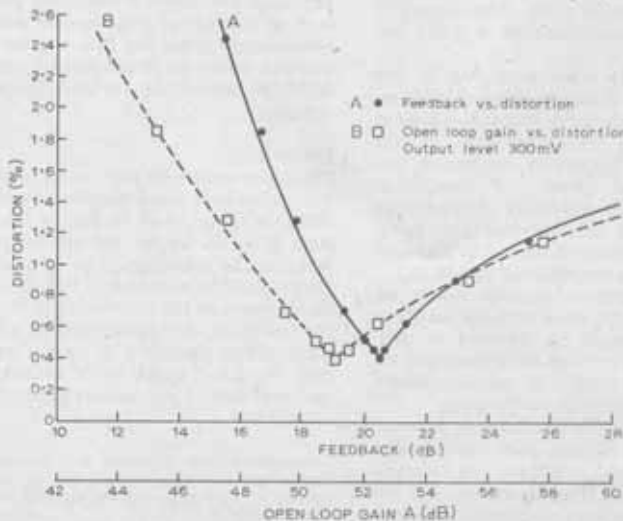

Fig. 2
For an infinite gain op-amp, equation 4 reduces to Walker's original form. To confirm this result an amplifier was made with a variable open loop gain (A). This variation in open loop gain was obtained in an elegant manner by connecting a potentiometer across the compensating terminals of the operational amplifier used. The circuit was designed to have minimum distortion for an open loop gain of approximately 52dB, corresponding to 20dB of feedback. Fig. 2 shows the results which confirm that increasing feedback beyond a particular value makes the distortion figure worse. In fact with all the current dump elements removed and the same amount of feedback (20dB), the distortion measured 3.1% against the null reading of 0.4%. This should remove any doubt about the effectiveness of the method, and Mr Walker and Mr Albinson of the Acoustical Manufacturing Company should be congratulated on innovating a most elegant method for removing distortion and for eliminating thermal problems associated with the output stages of high power audio amplifiers. D. M. Divan and V. V. Ghatge, Philips India Ltd.